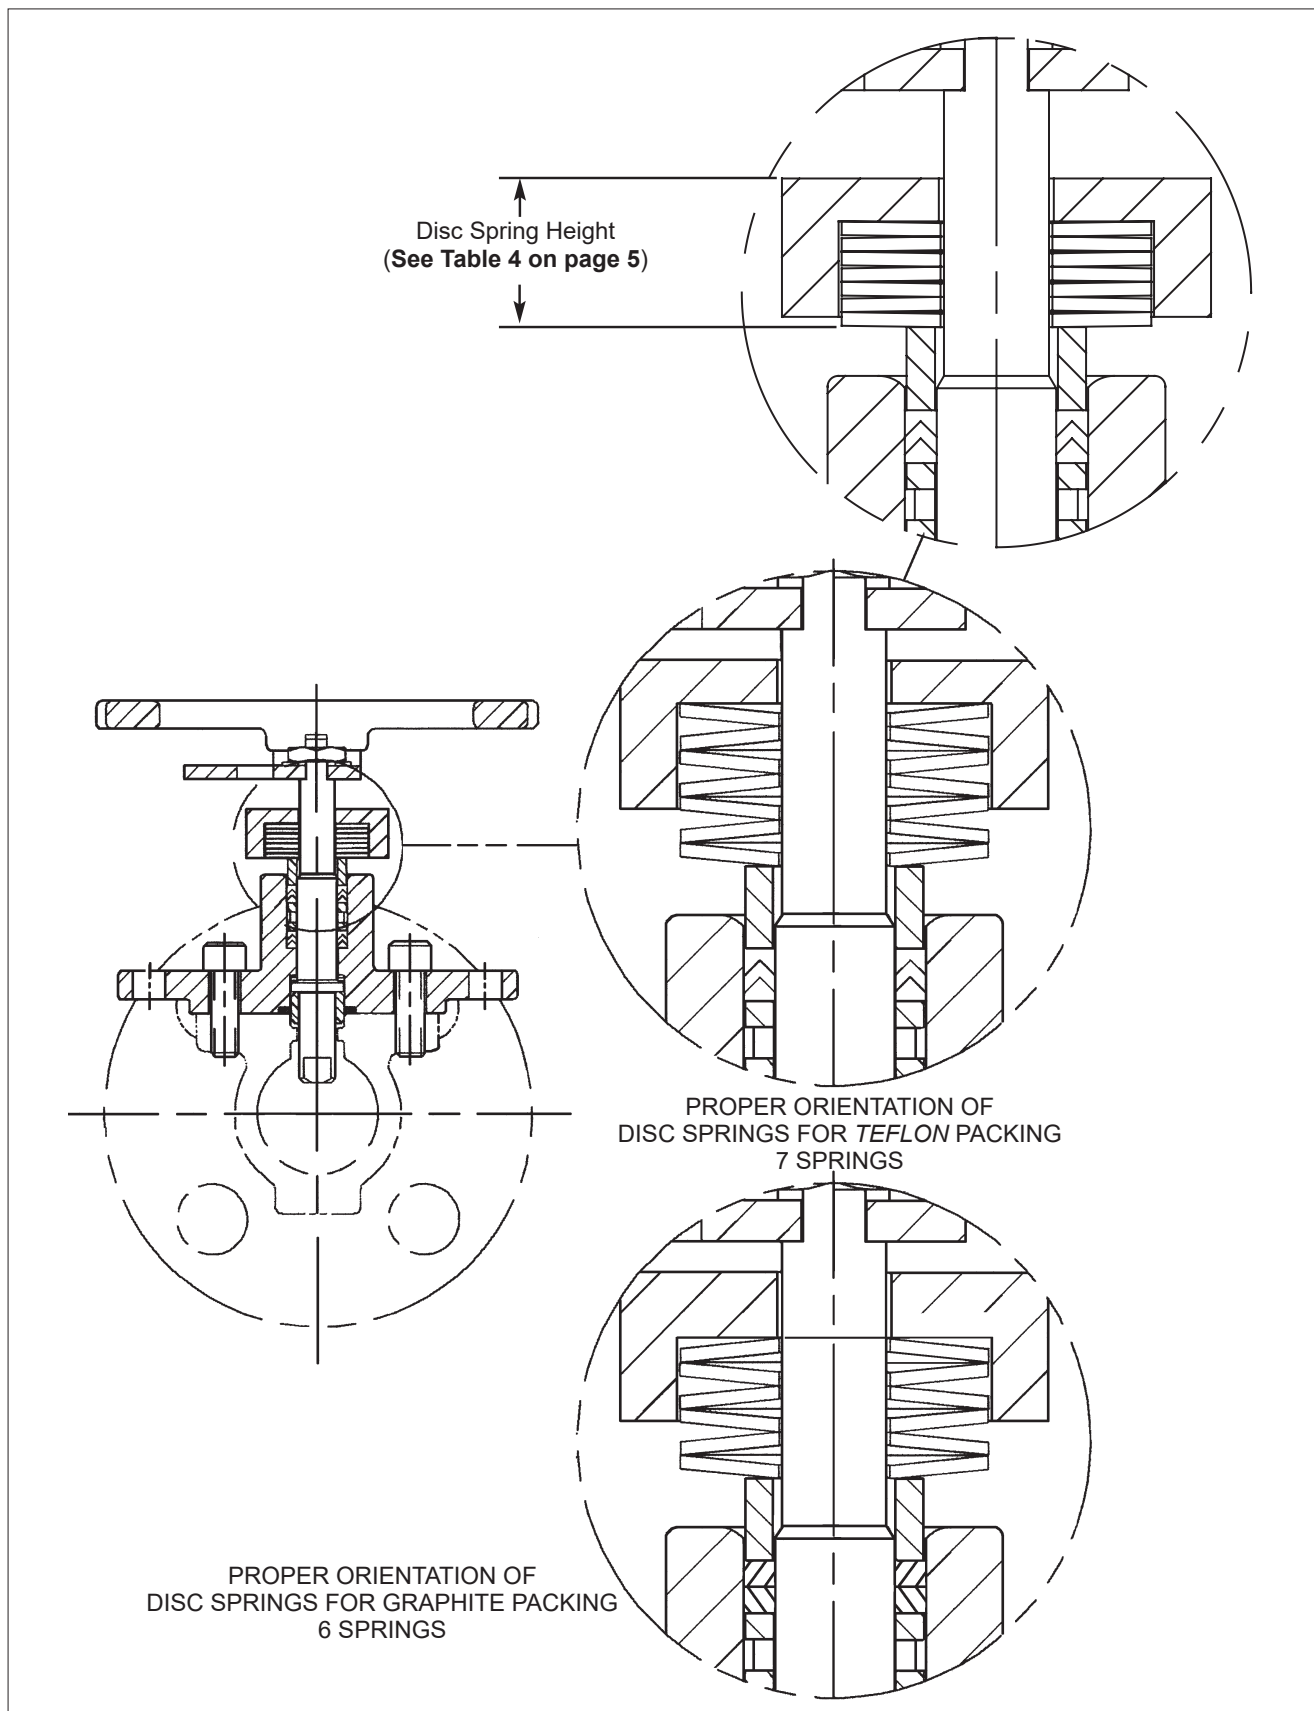

Figure 1.
1. Place one stem bearing (75) over the top of the stem and then the secondary stem seal (76) followed by a second stem bearing (75).
2. Insert the stem (4) into the stem retainer (80).
3. Insert the lower stem packing (81) and (82) over the stem and into the stem retainer bore. (**See Figure 1 for proper orientation of packing.**) Insert the lantern ring (83) for leak-off versions or compression ring (84) for non leak-off versions into the stem retainer bore. Add the upper stem packing assembly (81) and (82).
4. Insert the compression ring (84) and then the disc springs (87) over the stem. (**See Figure 1 for proper orientation of the disc springs.**)
5. Place the compression plate (86) over the stem so that the disc springs will be recessed inside the compression plate. The compression plate has a large notch on one side that lines up with the corner of the handle stop on top of the stem retainer.
6. Place the hex head cap screws (88) into the compression plate from the top and into the holes on the stem retainer.
7. Assemble the hex nuts (89) onto the hex head cap screws (88) by placing the hex nut into the stem retainer and tightening the hex head cap screw. Tighten the hex head cap screws evenly, alternating between them until the disc springs are compressed to the dimensions shown in (**Table 6**).